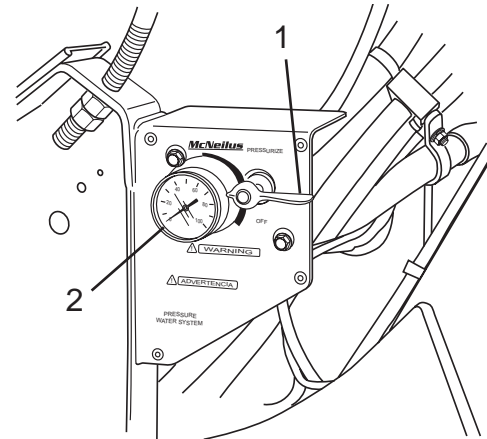

Figure 66
1. Turn air pressure control valve to EXHAUST position (Figure 66, Item 1). Make sure the gauge (Figure 66, Item 2) reads 0 psi (0 kPa).